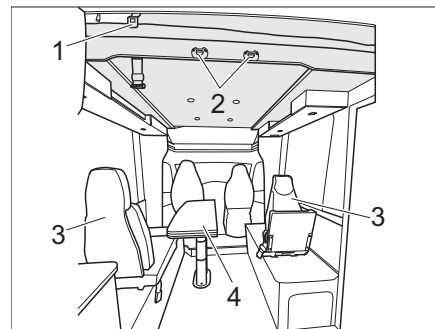

Fig. 160 Electrical pull-down bed (variant 3)
- Hook the access ladder to the pull-down bed by attaching both brackets into the U-bolts (Fig. 160,2).
- Lower the lowerable 2-legged folding table (Fig. 160,4) (see section 7.8.8).
- Remove 2 individual seats (Fig. 160,3) and stow them.